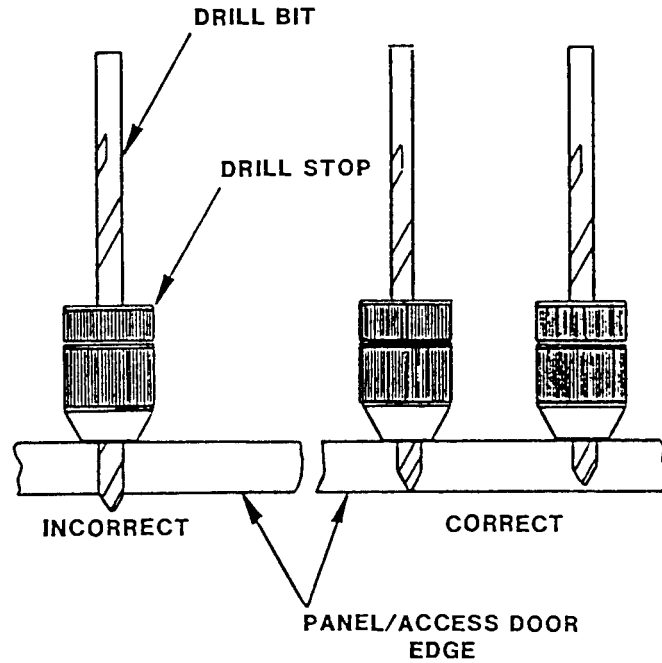

Figure 5-8. Panel Repair Setup.
5-11. PANELS. (See Figure 5-8.)
- (1) Loosen drill bit stop until opening becomes large enough to insert a No. 10 drill bit.
- (2) Insert bit into drill stop and tighten drill stop. Tapered part of drill stop should be towards bit tip; part of drill bit extending from tapered end of drill stop should be such that bit will not damage the sound insulation of panel when drilling. See Figure 5-8.